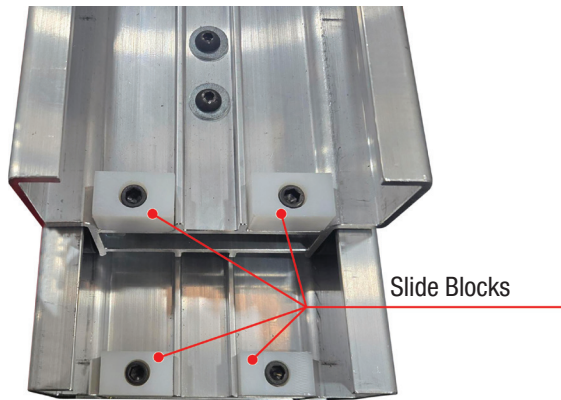

Figure 4-12: Slide Blocks
10. Release the mast locking arm. Working from the bottom of the mast assembly and starting with the fork carriage, move each mast section up to reveal the next mast section's bottom slide blocks (see Figure 4-12). Using 3/8" hex wrench and 9/16" wrench, remove the two white plastic slide blocks from the mast beneath and remove the above mast section by sliding it away from the section beneath. Slide the sections from the bottom of the mast assembly. Repeat this until you find the section with the broken cable end.